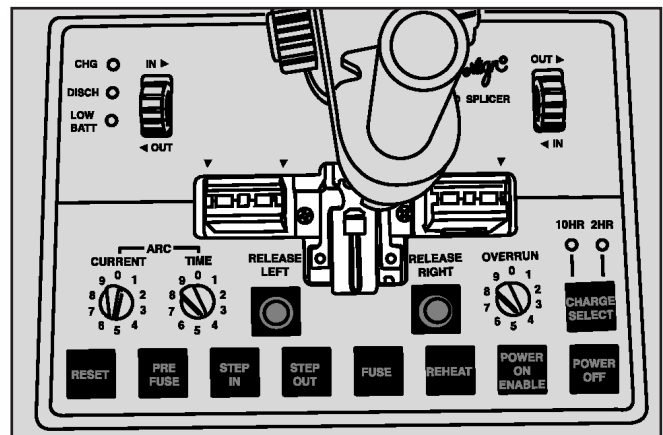

Figure 16
16. Splice the two prepared fibers together using tools and equipment as per company practices. Once the splice has tested acceptable, centrally position the splice protector over the fiber splice and shrink in position as per company practices. (Figure 16)